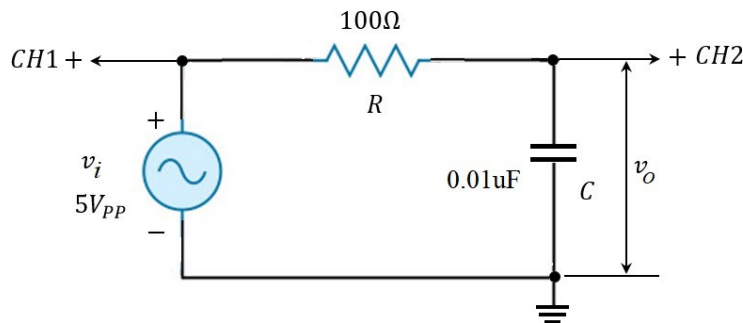

Figure 2(a): RC low pass filter
**High Pass Filter:** An ideal high pass filter blocks all signals below its cutoff frequency but passes all signals above cut off with no attenuation. A simple first order RC high pass filter is shown in Figure 2(a). The transfer function of this filter is given by: